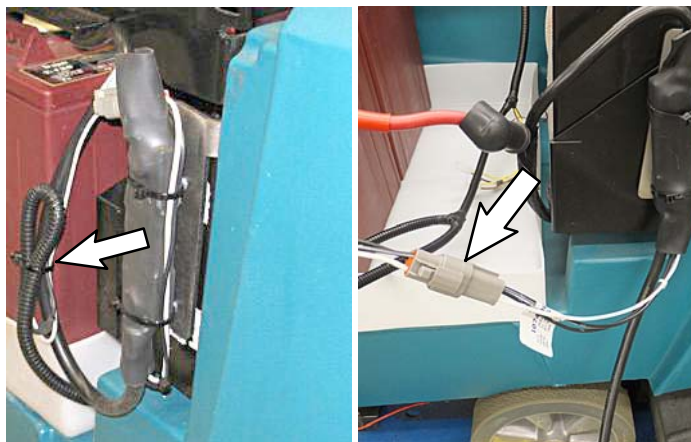

FIG. 6
5. Cut cable-tie securing the telemetry harness and disconnect the harness connector from shunt assembly (FIG. 6). Do not remove shunt assembly.